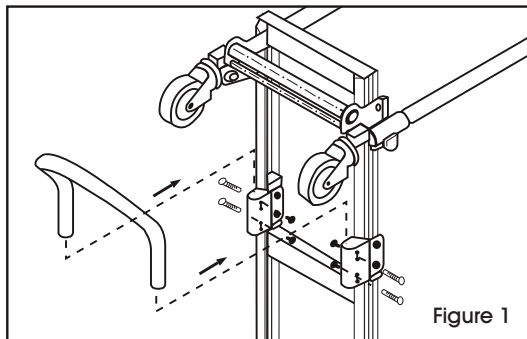

Figure 1
1. Slide handle into the mounts on the lower side of the frame. Align holes in handle and mounts. If handle won't slide in, loosen mount bolts. Insert four 10mm bolts through handle and mounts and secure with locknuts. (See Figure 1)